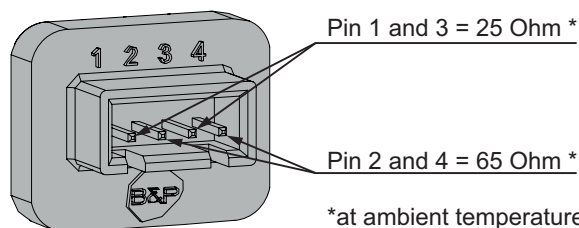

Figure 9.14
- 3 Measure the electrical resistance between the connector pins of the on-off operators as illustrated in Figure 9.14.